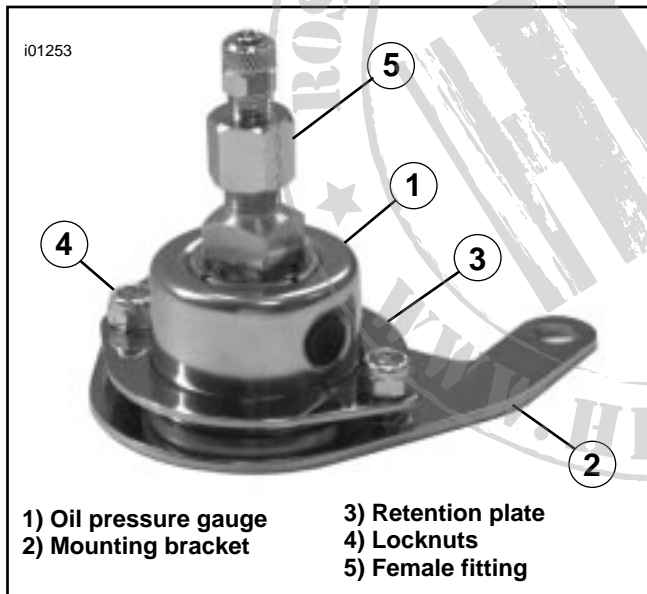

Figure 1. Oil Gauge and Bracket Assembly
- See Figure 1. Assemble oil pressure gauge to mounting bracket using locknuts and retention plate as shown. Tighten locknuts just until bracket studs are flush with nylon inserts in locknuts. Thread female pipe fitting onto end of gauge. Hold square stem of gauge with wrench when tightening female fitting.